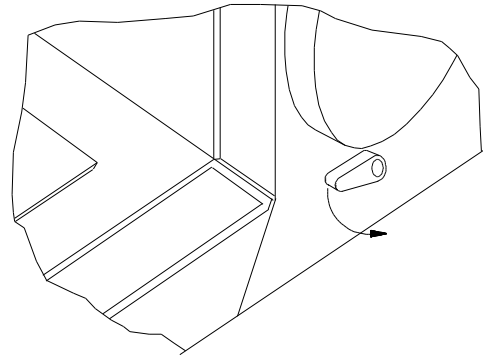

Fig. 17
- Turn the lever downwards in the direction of the arrow, to loosen the hand wheel lock (fig. 17).